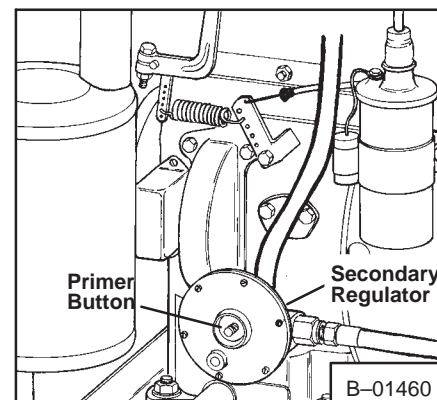

Fig. 7 Secondary Regulator & Primer Button
The secondary regulator (Fig. 7) withholds gas until a vacuum, created by turning the engine over at a continuous rate, opens the regulator valve allowing fuel to enter the carburetor.
2. Depress the primer button on the secondary regulator for an instant so that enough fuel will enter the carburetor for starting (Fig. 7).